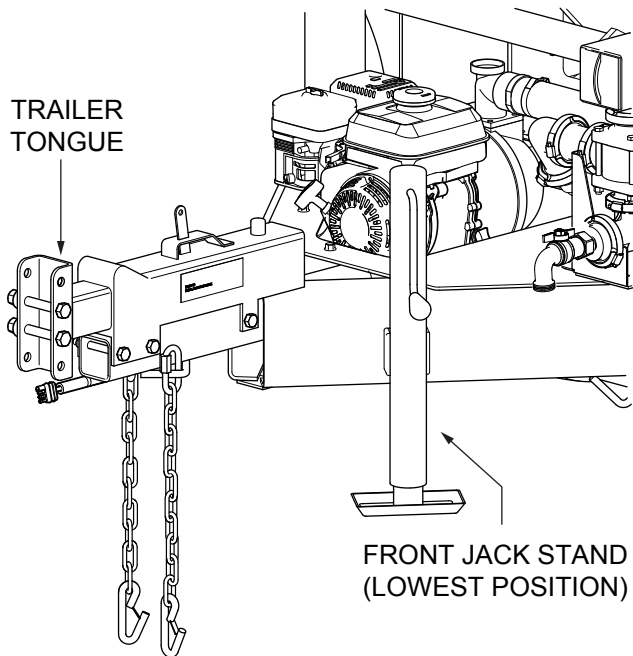

Figure 25. Lowering Trailer Tongue
7. Once water appears to have all been drained, lower front trailer tongue by lowering front jack stand to the lowest position (Figure 25).